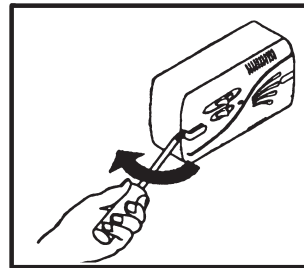

Fig. 2a : Removing screw covers
- 1 Detach the Fascia and Mounting Frame by removing the screw covers and two screws (Refer to Fig. 2a&b).